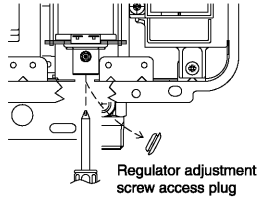

Fig. 4
- Remove rubber access plug and adjust the regulator screw on the modulating valve (Fig.4) as required in Table 1. Replace rubber access plug.